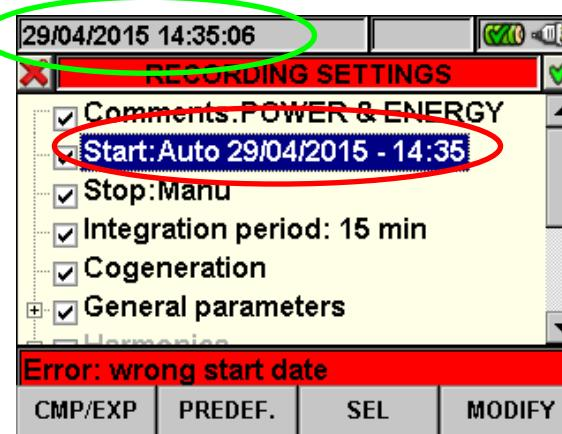

Fig. 83: Wrong Date/Hour
3. Press **SAVE** or **ENTER** keys (or smart icon) to saving the settings. The screen of Fig. 83 is shown if a wrong Date/Hour is set. Under this condition the **SAVE** key does not have any effect. Repeat the steps 2 and 3 and set corrects values before pressing **SAVE** key again.